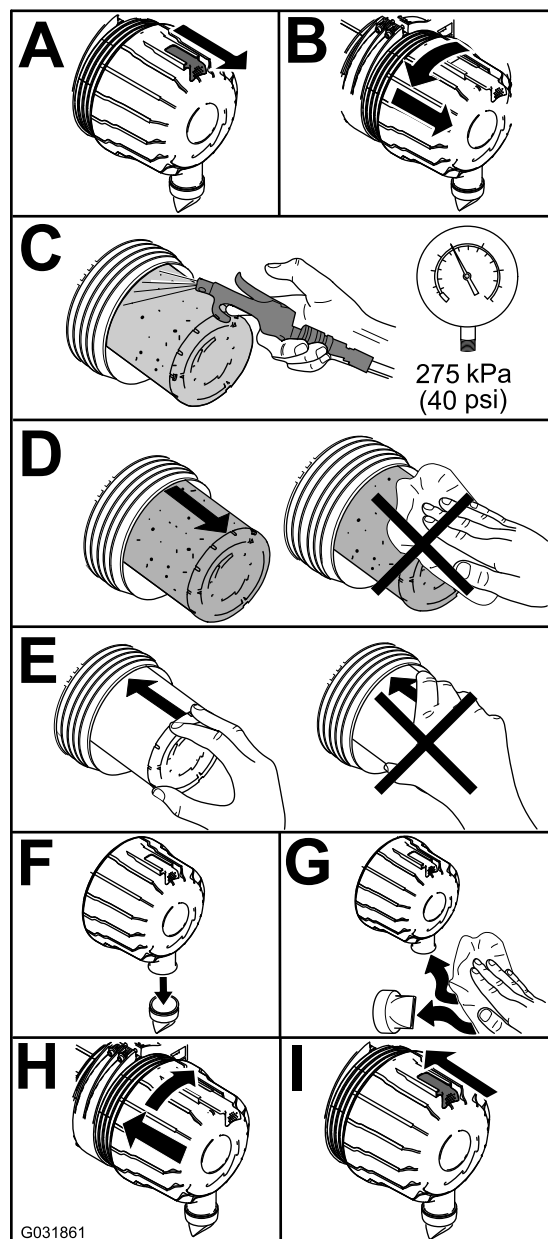

Figure 92
1. Replace the air cleaner (Figure 92).